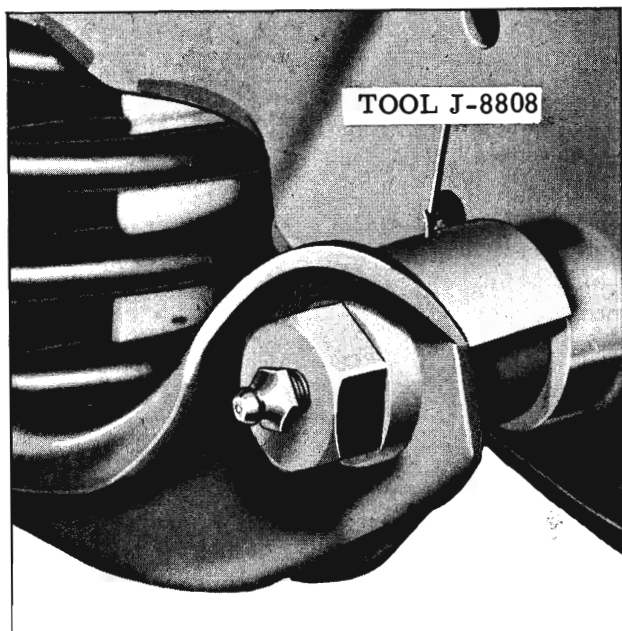

Fig. 5-106 Installing Lower Control Arm
2. Place spacer Tool J-8808 in position on shaft. (Fig. 5-106) Spacer must be raised off shaft enough to allow bushing to pass under it.